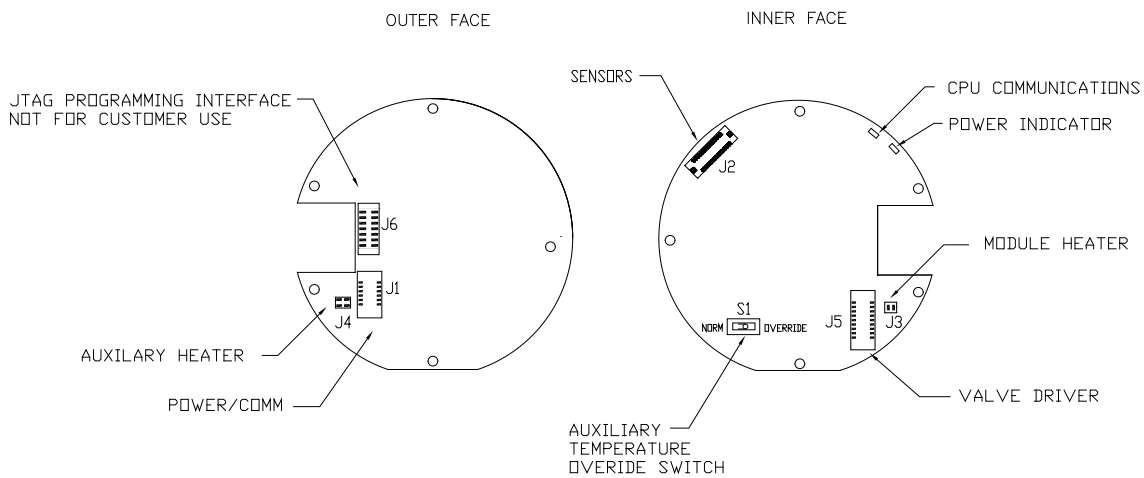

Figure 5-7 Analytical Processor Board
- 11) Detach the analytical module rear face jack J1 and J4, if the auxiliary heater is installed (see Figure 5-7).
- 16) Holding the new analytical module at the opening of the enclosure, reconnect jack J1 and J4, if the auxiliary heater is installed (see Figure 5-7).